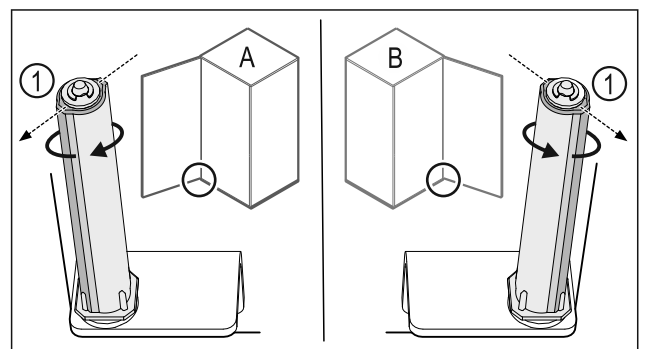

Fig. 35 Left-hinged (A) / Right-hinged (B)
- ▶ Turn the closing system against the resistance until the bar of the closing system Fig. 35 (1) points outwards.